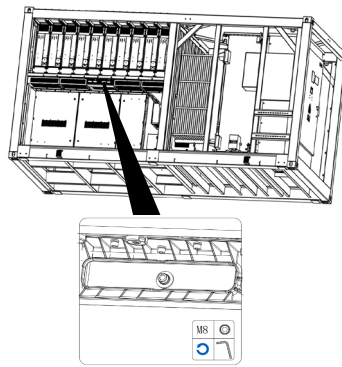

Figure 7 Disassembling the module fastening bolts
4. After removing the module, tighten the bolts, only removing the bolts is required, as shown in Figure 7 below;